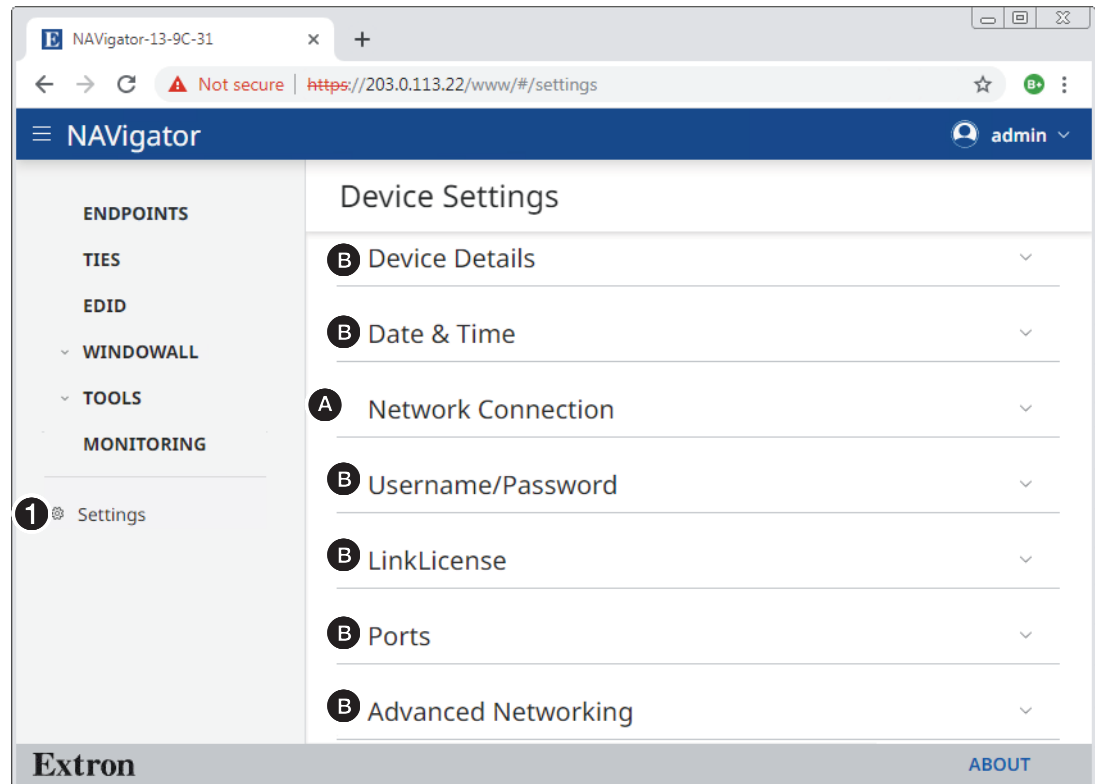

Figure 21. Device Settings Page
The Settings page provides the ability to view and change NAVigator settings. To access the Settings page, click **Settings** (see figure 21, ❶). The Device Settings page opens.